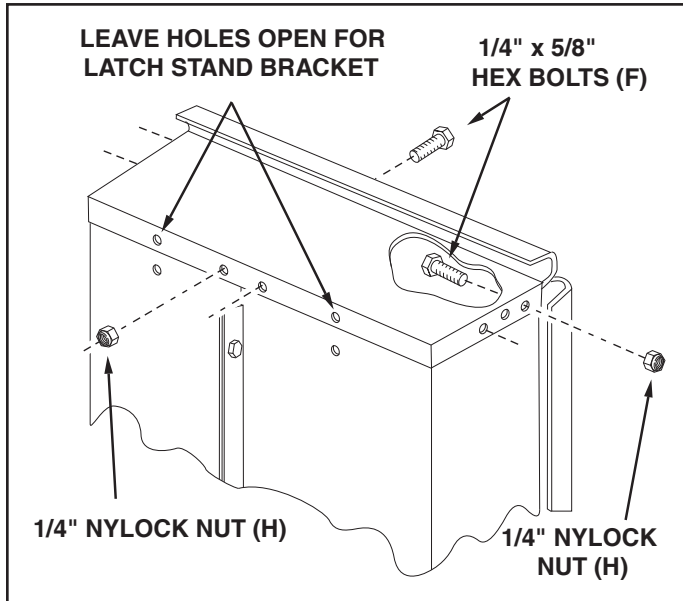

FIGURE 4
9. Assemble the front panel over the end of the cart using six 1/4" x 5/8" (F) hex bolts and 1/4" nylock nuts (H) as shown in figure 4. Leave two holes in the bottom of the panel empty as shown. Pull the cart body halves together and **tighten** the bolts in the bottom of the front panel, then **tighten** the bolts in the sides. See figure 4.